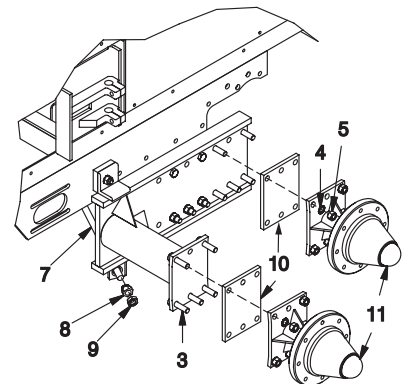

Figure 2-3-4 - Mounting Spacer Plates, Hubs & Truss Rod
B. (See Figure 2-3-4) Place (2) Item 10 Spacer Plates on the tandem plate. Place (2) Item 11 Hub and Spindle assemblies as shown. Place all bolts, star washers and nuts, so the hub and spindle are secure. Torque all nuts and bolts as per torque chart on page 2-3-1.
C. Before mounting the tires and wheels, place (1) Item 7 Truss Rod as shown in Figure 2-3-4. Secure truss rod finger tight with (2) Item 8 Truss Rod Nuts and (2) Item 9 Jam nuts.